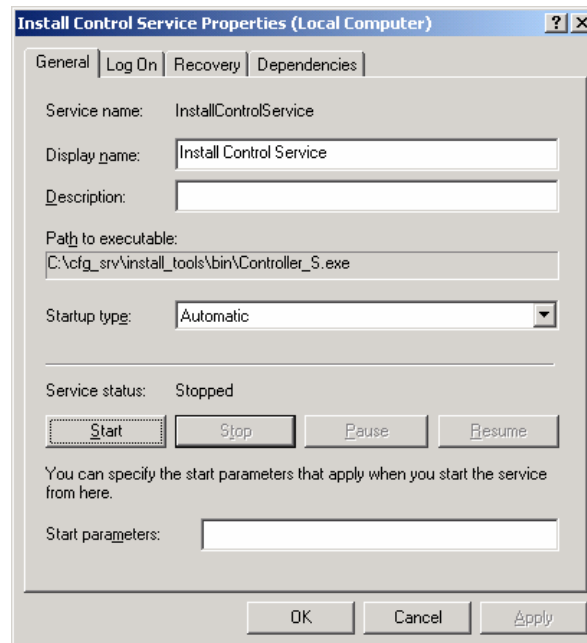

Figure 1-240. Install Control Service Properties General Tab
9. Click on the **General** tab (Figure 1-240).